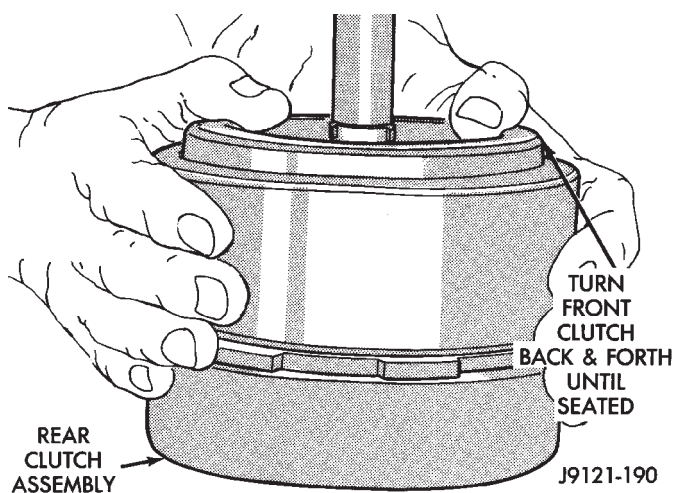

Fig. 156 Assembling Front And Rear Clutch Units
(21) Align clutch discs in front clutch and install front clutch on rear clutch (Fig. 156). Rotate front clutch retainer back and forth until completely seated on rear clutch.